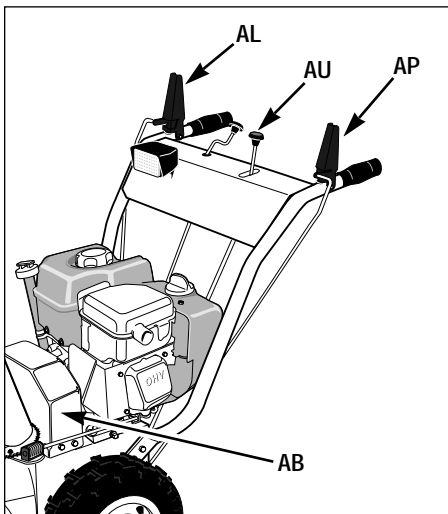
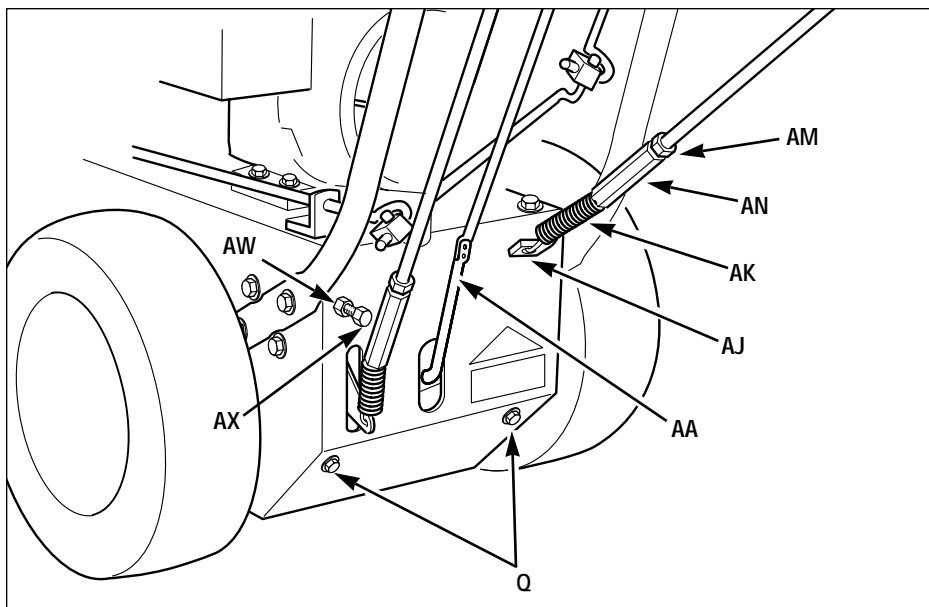

Figure 5-7
Figure 5-8
2. If assembling a new unit, raise the wheel drive control lever (AP, Figure 5-7) and the auger drive control lever (AL).
3. Pull the auger drive control arm (AJ, Figure 5-8) down completely.
4. Measure and note distance between coiled ends of spring (AK, Figure 5-8).
5. Squeeze auger drive control lever (AL, Figure 5-7) against handlebar. Measure between the coiled ends of the stretched spring (AK, Figure 5-8), making sure you measure between the same coils used in step 4.
The spring length should now measure 9/16" – 11/16" (14–17mm) longer than the measurement taken in Step 4. If it does not, loosen the jam nut (AM, Figure 5-8) and turn the adjuster (AN) to increase or decrease the length of the spring. Hold the adjuster and tighten the jam nut (AM) when the correct spring length is obtained. Re-check the measurements and adjust if needed.
1. With the engine stopped and the spark plug wire disconnected, move the gear shift lever (AU, Figure 5-7) to position No. 5. Remove the hairpin cotter and the flat washer from the pivot block (N, Figure 5-10). Disconnect the pivot block (N) from the gear shift lever plate (AV, Figure 5-10).
2. Pull the gear shift control rod (AA, Figure 5-8) down completely.
3. While holding the gear shift control rod (AA, Figure 5-8) down, loosen the jam nut (ZZ, Figure 5-10) and thread the pivot block (N) up or down as needed so it fits into the hole in the gear shift lever plate (AV, Figure 5-10).
5. Move the gear shift control lever (AU, Figure 5-7) through the full range of travel. Check for binding. Refer to the *Drive Disc Clearance Adjustment* instructions, if needed.
1. With the engine stopped and the spark plug wire disconnected, loosen jam nut (AW, Figure 5-8). Rotate adjusting screw (AX) until rubber drive wheel (T, Figure 5-9) contacts metal drive disc (U, Figure 5-9).
3. Adjust the discs at the point of minimum clearance. Loosen adjusting screw (AX, Figure 5-8) 1/2 turn. Secure the adjusting screw (AX) in place, while tightening the jam nut (AW).
4. Check the clearance (AY, Figure 5-9) by moving gear shift lever (AU, Figure 5-7) through all positions. Repeat Step 3 as necessary.
2. Squeeze the auger drive control lever (AL, Figure 5-7) against handlebar.